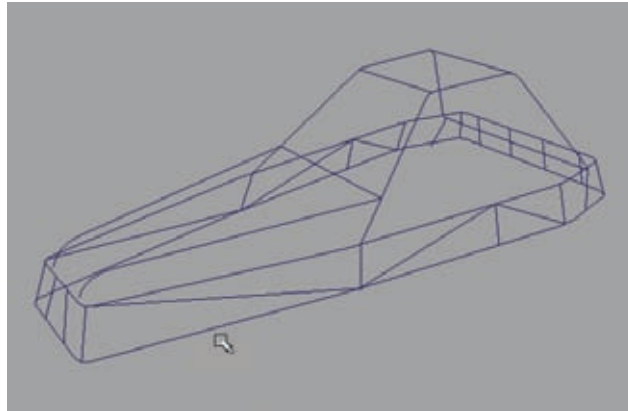

Figure 4.7
15. Position several small, straight curves around the frame, connecting the top and bottom frame curves together with what will become support bars. You can see in my example (Figure 4.7) that I put several in the front and back and added diagonal bars to the sides.